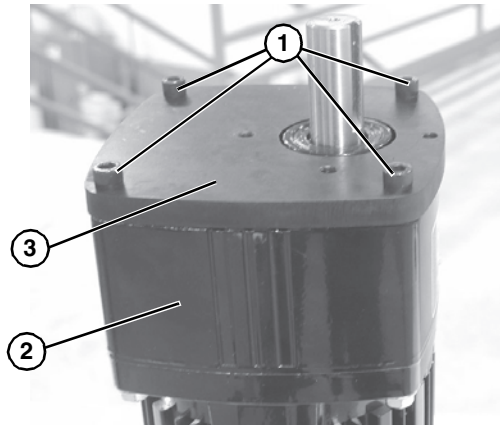

Figure 15
4. Remove four (4) screws (**Figure 15, item 1**) and detach motor (**Figure 15, item 2**).
5. Install mounting plate (**Figure 15, item 3**) on new motor with screws (**Figure 15, item 1**) and tighten to 75 in-lbs (8.5 N-m).